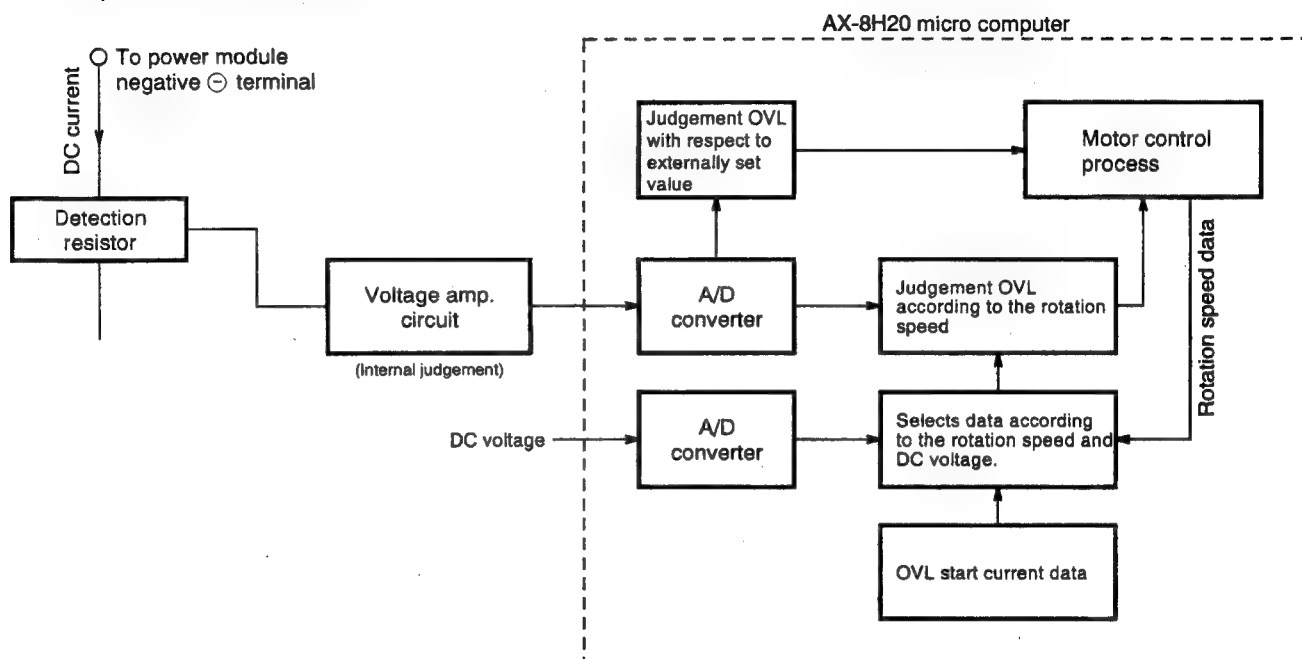
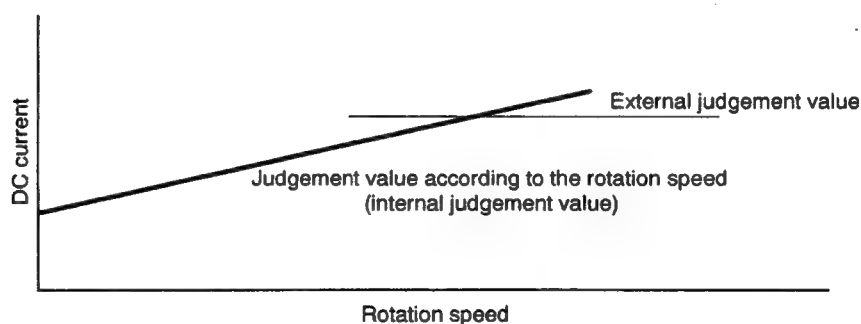

Fig. 9-4 Overload Control System Configuration
Fig. 9-5
- Der Mikrocomputer schaltet den Stift 29 von "Hi" auf "Lo" um, nachdem das Antriebssignal stoppt, um die Speicherfunktion des COM(A) freizugeben und an den anfänglichen Status zurückzukehren.
- Fig. 9-4 shows the overload control system configuration and Fig. 9-5 is a characteristic diagram of overload judgement values. There are two judgement methods—external judgement which compares the externally set value with the DC current value regardless of the rotation speed and internal judgement which compares the set value that varies according to the rotation speed programmed in the micro computer software with the DC current value.